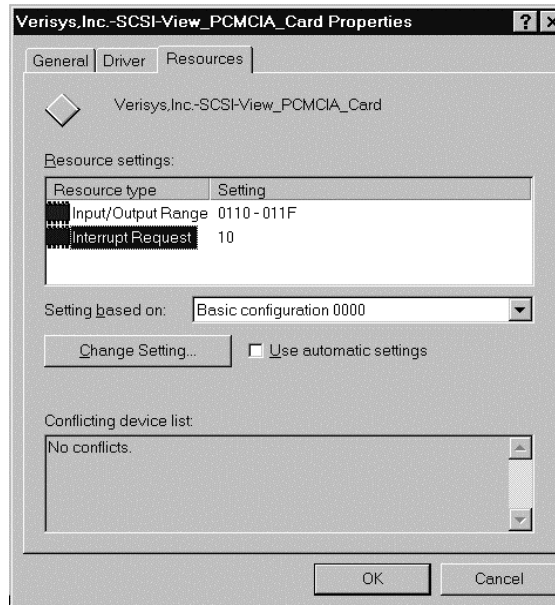

Figure 19
- Chose the **Resources** tab at the top of the screen.(Figure 19)